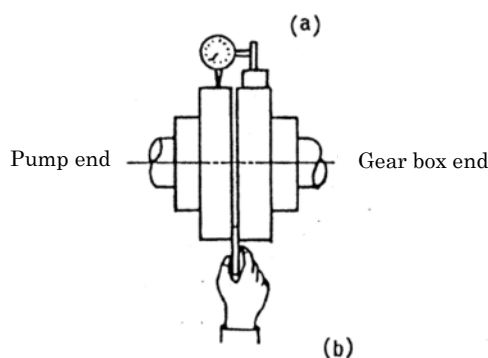
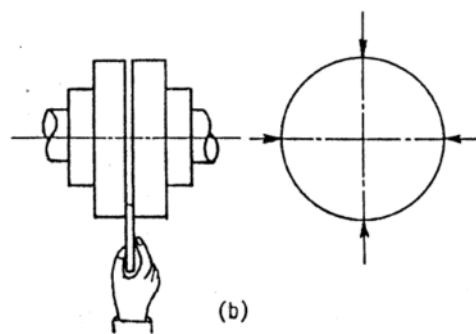

Fig.1 Check with dial indicator and thickness gauge
Fig.2 Check with straight edge and thickness gauge
- After removing coupling bolts as shown in Fig.1 or Fig.2 check alignment by measuring parallel and angular misalignment at 4 points, 90° apart, on the coupling periphery.
- For measurement on the shaft coupling periphery, a dial indicator is fixed, as shown in Fig.1 (A), on the motor end coupling and the pump end coupling periphery. Give the pump end coupling one complete turn by hand. Half of the variation in readings is taken as the value of measurement, which must comply with the value in Table 1.
- For comparing the distance between coupling faces at four points using a thickness gauge, as shown in Fig.1 (B), give the shaft one complete turn by hand. The value of measurement must comply with the value in Table 1.